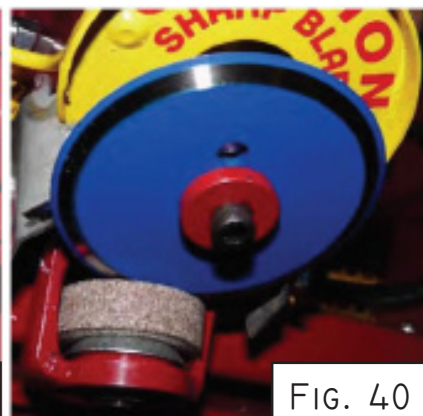

FIG. 40
1. Figures 40, 41, and 42 (see next page) are various stages of sharpening the Cutter Blade manually.